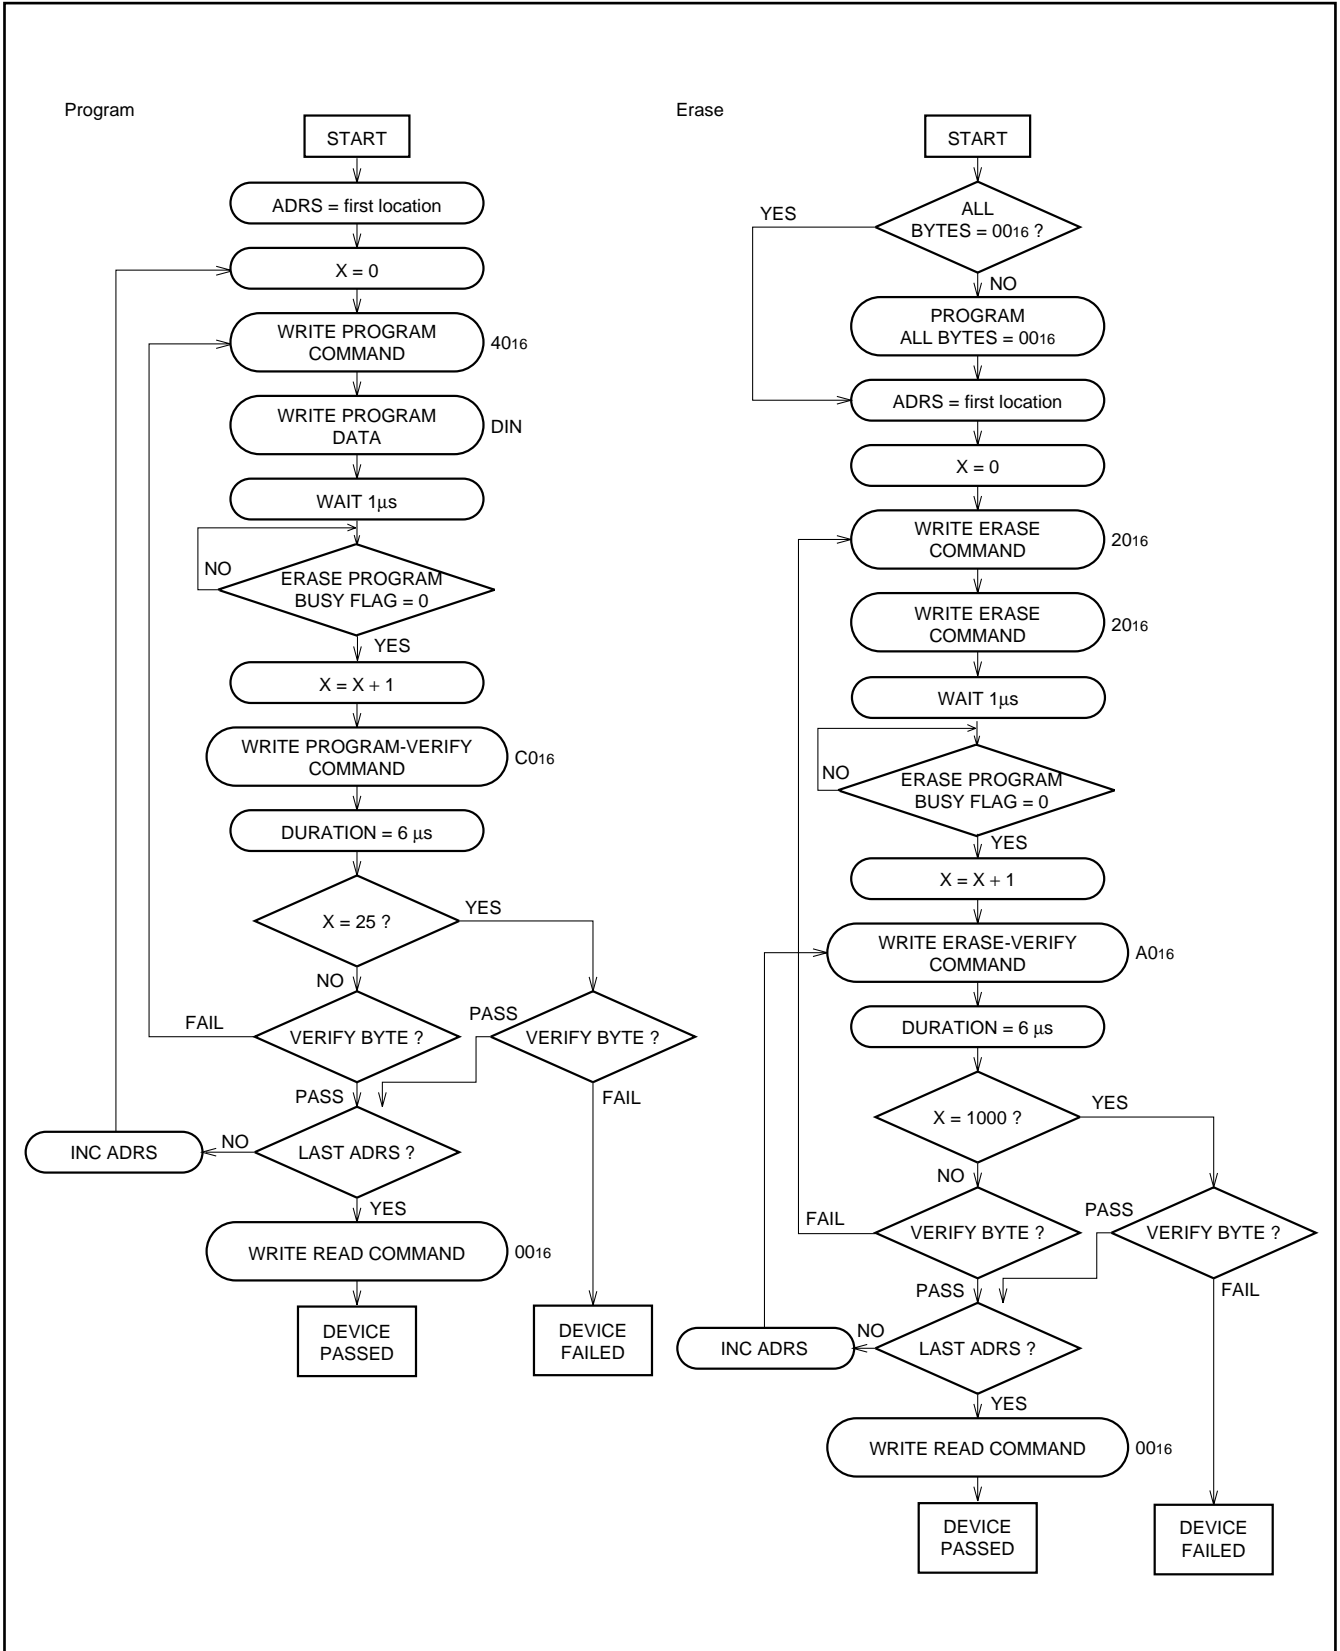

Fig. 101 Flowchart of program/erase operation at CPU reprogramming mode
**Note:** A programming operation is not completed by executing the program command once. Always be sure to execute a program verify command after executing the program command. When the failure is found in this verification, the user must repeatedly execute the program command until the pass. Refer to Figure 101 for the flow chart of the programming.
**Note:** The erasing operation is not completed by executing the erase command once. Always be sure to execute an erase verify command after executing the erase command. When the failure is found in this verification, the user must repeatedly execute the erase command until the pass. Refer to Figure 101 for the erasing flowchart.